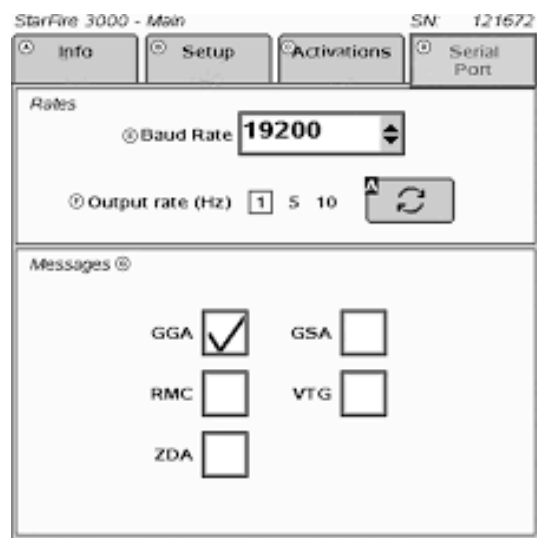

Fig. 2.23 Serial Port configuration window.
3. Configure the John Deere Star Fire serial port baud rate, Output Rate and NMEA message settings as shown in Figure 2.23.